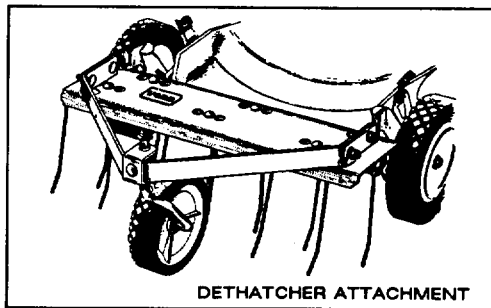

Figure 24
2. **Dethatcher Kit, Model No. 59131**—Installs in minutes. Front mounted for easy maneuverability. Spring tines loosen thatch and vacuum it into grass bag (Fig. 24) for clean and convenient disposal.